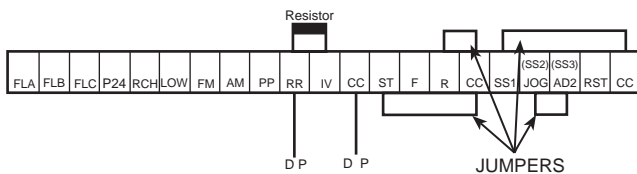
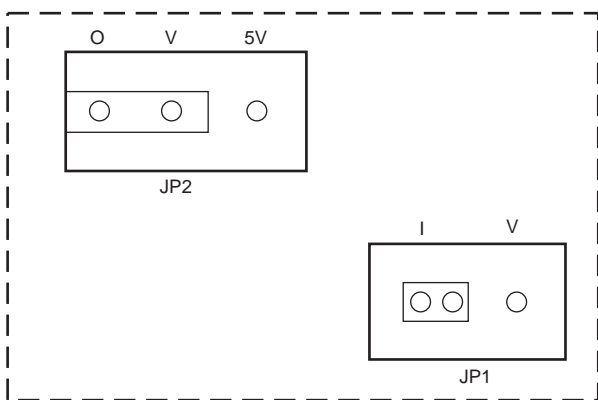

Fig. 6 — Variable Frequency Drive Wiring (2 to 10 vdc Signal)
Fig. 8 — Variable Frequency Drive Printed Circuit Board Jumper Wiring
This improvement results in a change to the wiring of the variable frequency drive on the terminal strip within the drive. See Fig. 6 and 7. Also, on the VFD printed circuit board, the JP1 jumper should be set to “V” for a 2 to 10 vdc transducer and “I” for a 4 to 20 mA transducer. See Fig. 8.
2. Remove the jumper between CC and ST on the terminal strip of the VFD (see Fig. 6 and 7).
PATTERN FREQUENCY GROUP PARAMETERS: Item 1, Forward/Reverse rotation select. There is a factory installed jumper shown between terminal "R" and "CC" shown in Fig. 6 and 7. With the jumper in place, the factory setting is 0 (zero). Item 2, priority of RR terminal input, the factory setting is 1. (2 to 10 vdc transducer, RR terminal inputs "ON") for units with starting serial numbers 0797F and earlier. Effective with starting serial number 0897F and later, the factory setting is 0 (4 to 20 mA transducer, IV terminal input "ON").